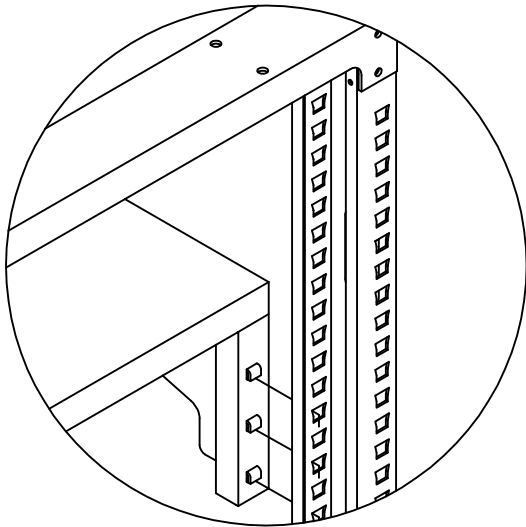
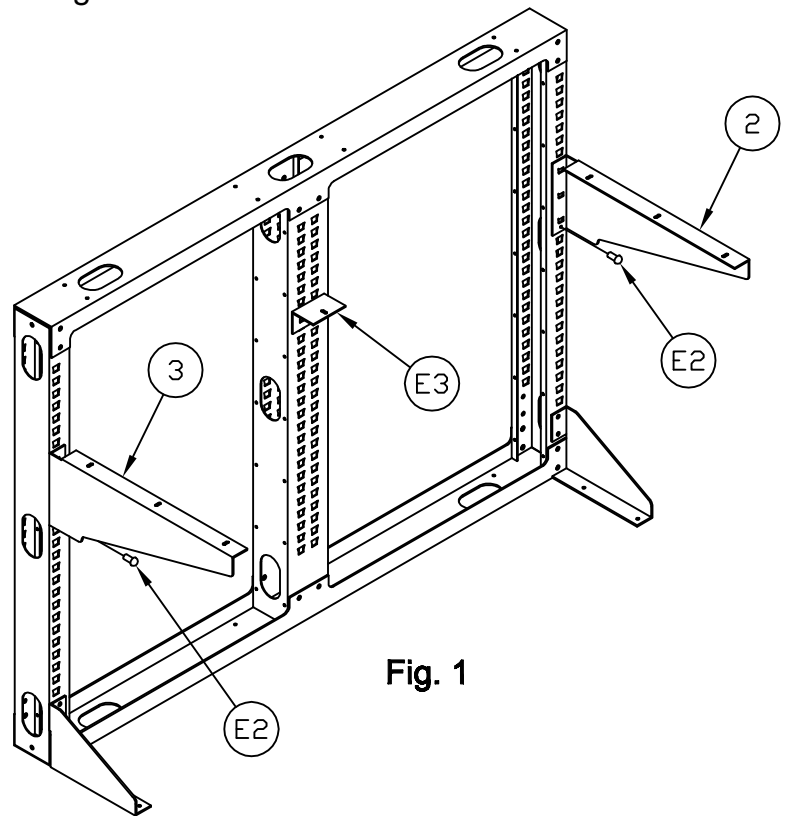

Fig. 1A
Fig. 1
See Fig. 1. Make sure tabs are properly seated. See Fig 1A
2. Attach Screws (E2) into Shelf Supports. See Fig 1.